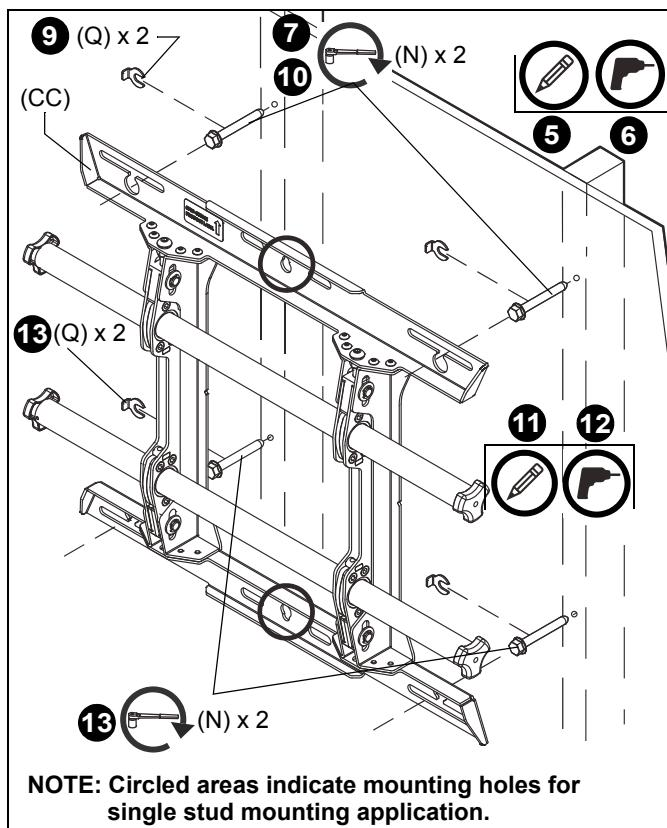

Figure 2
- Using a level, mark the wall on each stud to attach the mount through the upper mounting slots. (See Figure 2)
- Partially install two 5/16 x 2-1/2" flanged lag bolts (N) into pilot holes but do not tighten to wall.
- Hang mount (Z), aligning upper mounting slots over lag bolts and adjust side-to-side for proper location.
- Place one slotted washer (Q) over each flanged lag bolt. (See Figure 2)
- Tighten lag bolts to secure mount (Z) to wall at upper mounting slots.